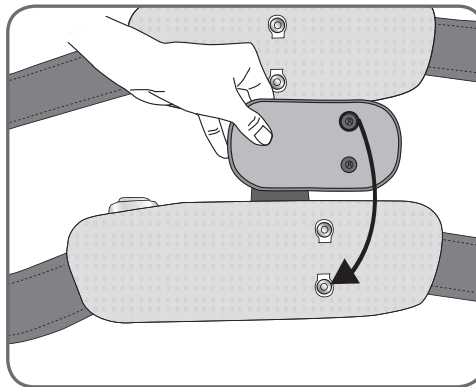

Figure 8-40: Snapping the distal cloth electrode.
4. Snap the distal Thigh cloth electrode to the distal panel. See Figure 8-40.